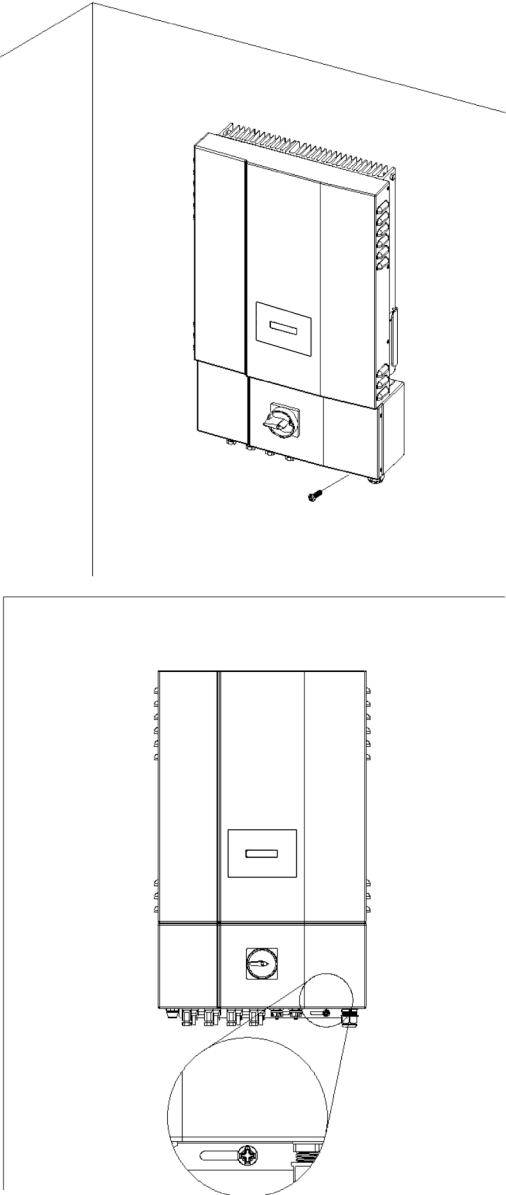

Fig 2.2.4 Hook the Inverter on the mounting bracket and then fasten the screw
- Once the mounting bracket is fixed to the wall, the inverter can be located and fastened to the mounting bracket. Slide the inverter over the mounting bracket flanges let it slide down slowly until it is hooked in place. Put the provided screw through the hole, as shown in figure 2.2.4 below, in order to fasten both inverter and the wiring box together to the mounting bracket.